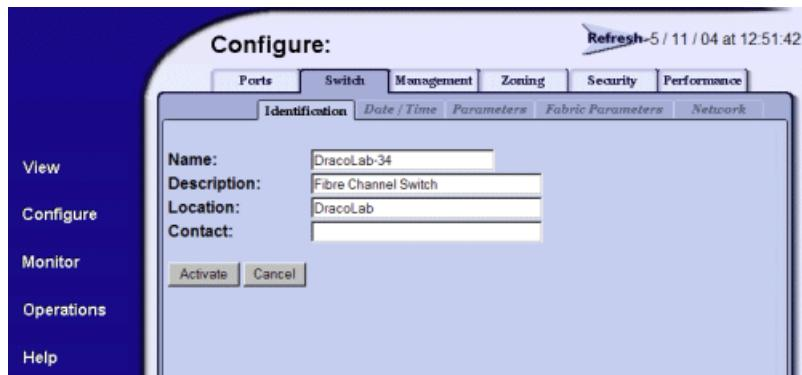

Figure 39: Configure Switch Identification tab
1. At the **Configure** window, click the **Switch** tab. The **Switch** page displays with the **Identification** tab selected (Figure 39).